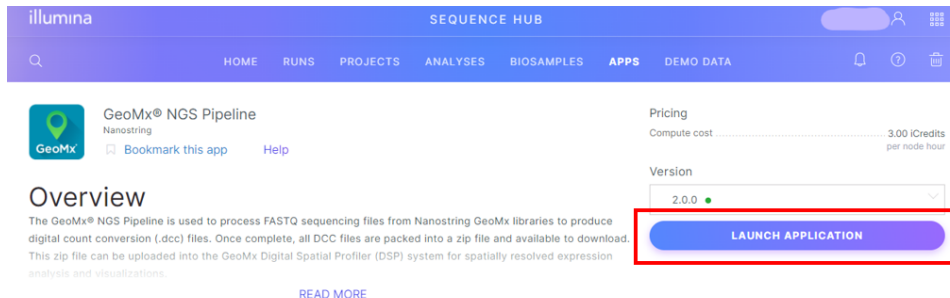

Figure 29: Launch GeoMx NGS Pipeline application
3. Launch application (see Figure 29).